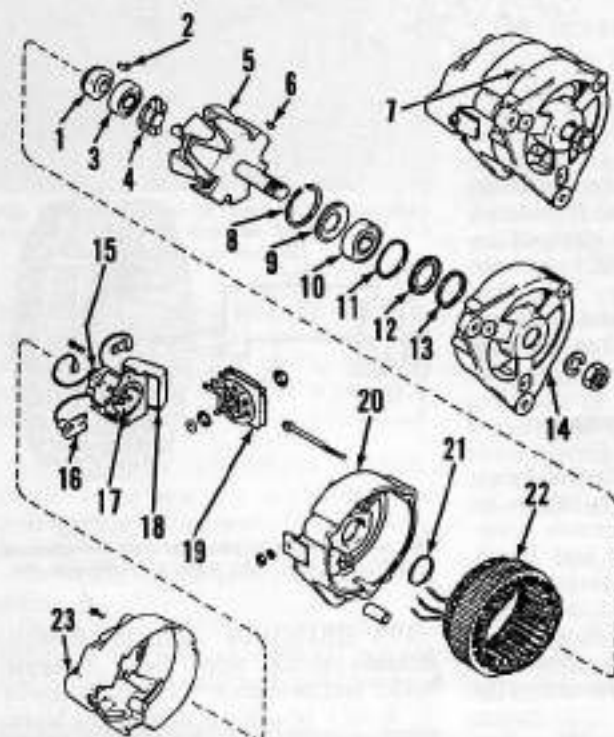

Fig. 99—Exploded view of standard duty Lucas alternator showing component parts and their relative positions.
**186. DISASSEMBLY.** Scribe locating marks on alternator housings (7—Fig. 99) and remove end cover (23). Note location of stator leads and unsolder leads from rectifier (19). Use **CAUTION** to not overheat diodes. Remove brush, regulator and rectifier assemblies. Remove retaining bolts and separate drive end housing (14) and rotor assembly (5) from rear housing (20) and stator assembly (22). Remove drive pulley, fan and shaft key and press rotor and shaft (5) out of drive end housing (14) and front bearing (10). Remove snap ring (8), plate (9), bearing (10), pressure ring (11), plate (12) and felt seal (13). Unsolder field winding connections and remove slip ring (1) if rear bearing (3) or seal (4) are to be renewed. Press off rear bearing (3). Separate stator assembly (22) from rear housing (20).